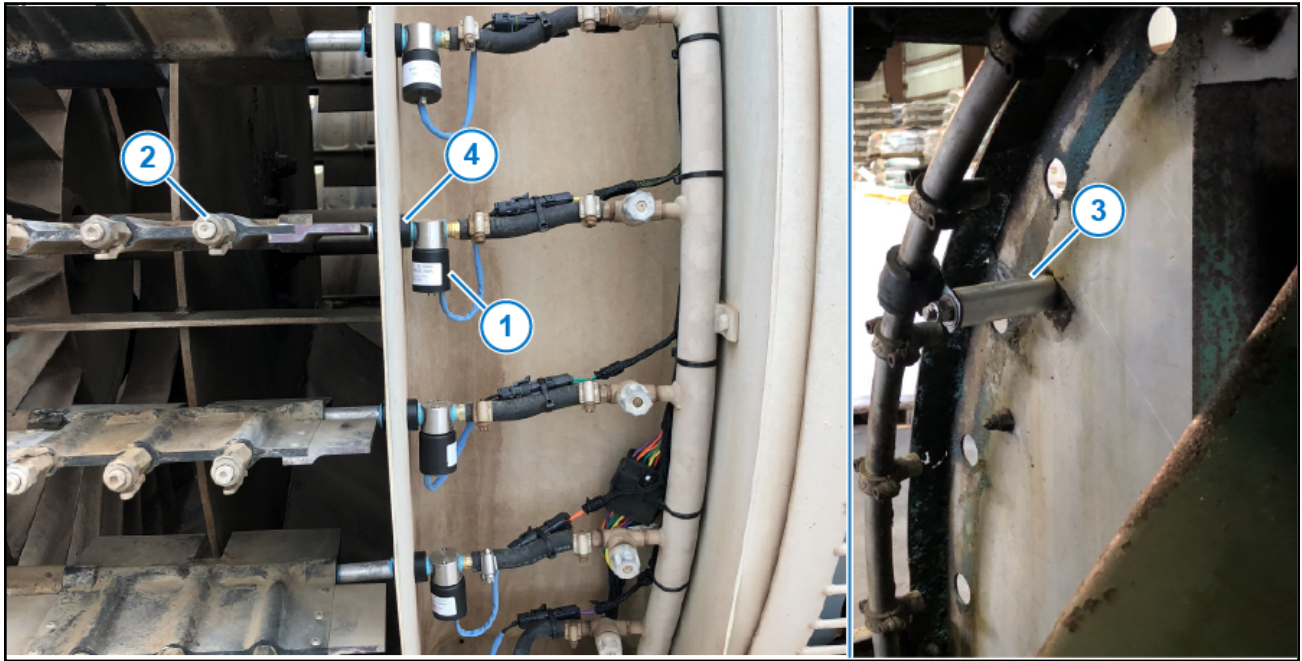

Figure 5: Valve Assembly Installation
1. Identify the location for the valve assemblies (Figure 5, Item 1).
The valve assembly location must be as close to the tip (Figure 5, Item 2) as possible without being in the airstream.
Standoffs (Figure 5, Item 3) may be needed in certain applications to move the boom away from the panel to allow for clearance for CapstanAG valves. This may vary for each make/model of sprayer.
Note: The AOF bushing (PN: 706530-145) shown (Figure 5, Item 4) is an optional purchase from CapstanAG that can be used when installing system on Air-O-Fan make sprayers. Contact your dealer or CapstanAG representative for more information.